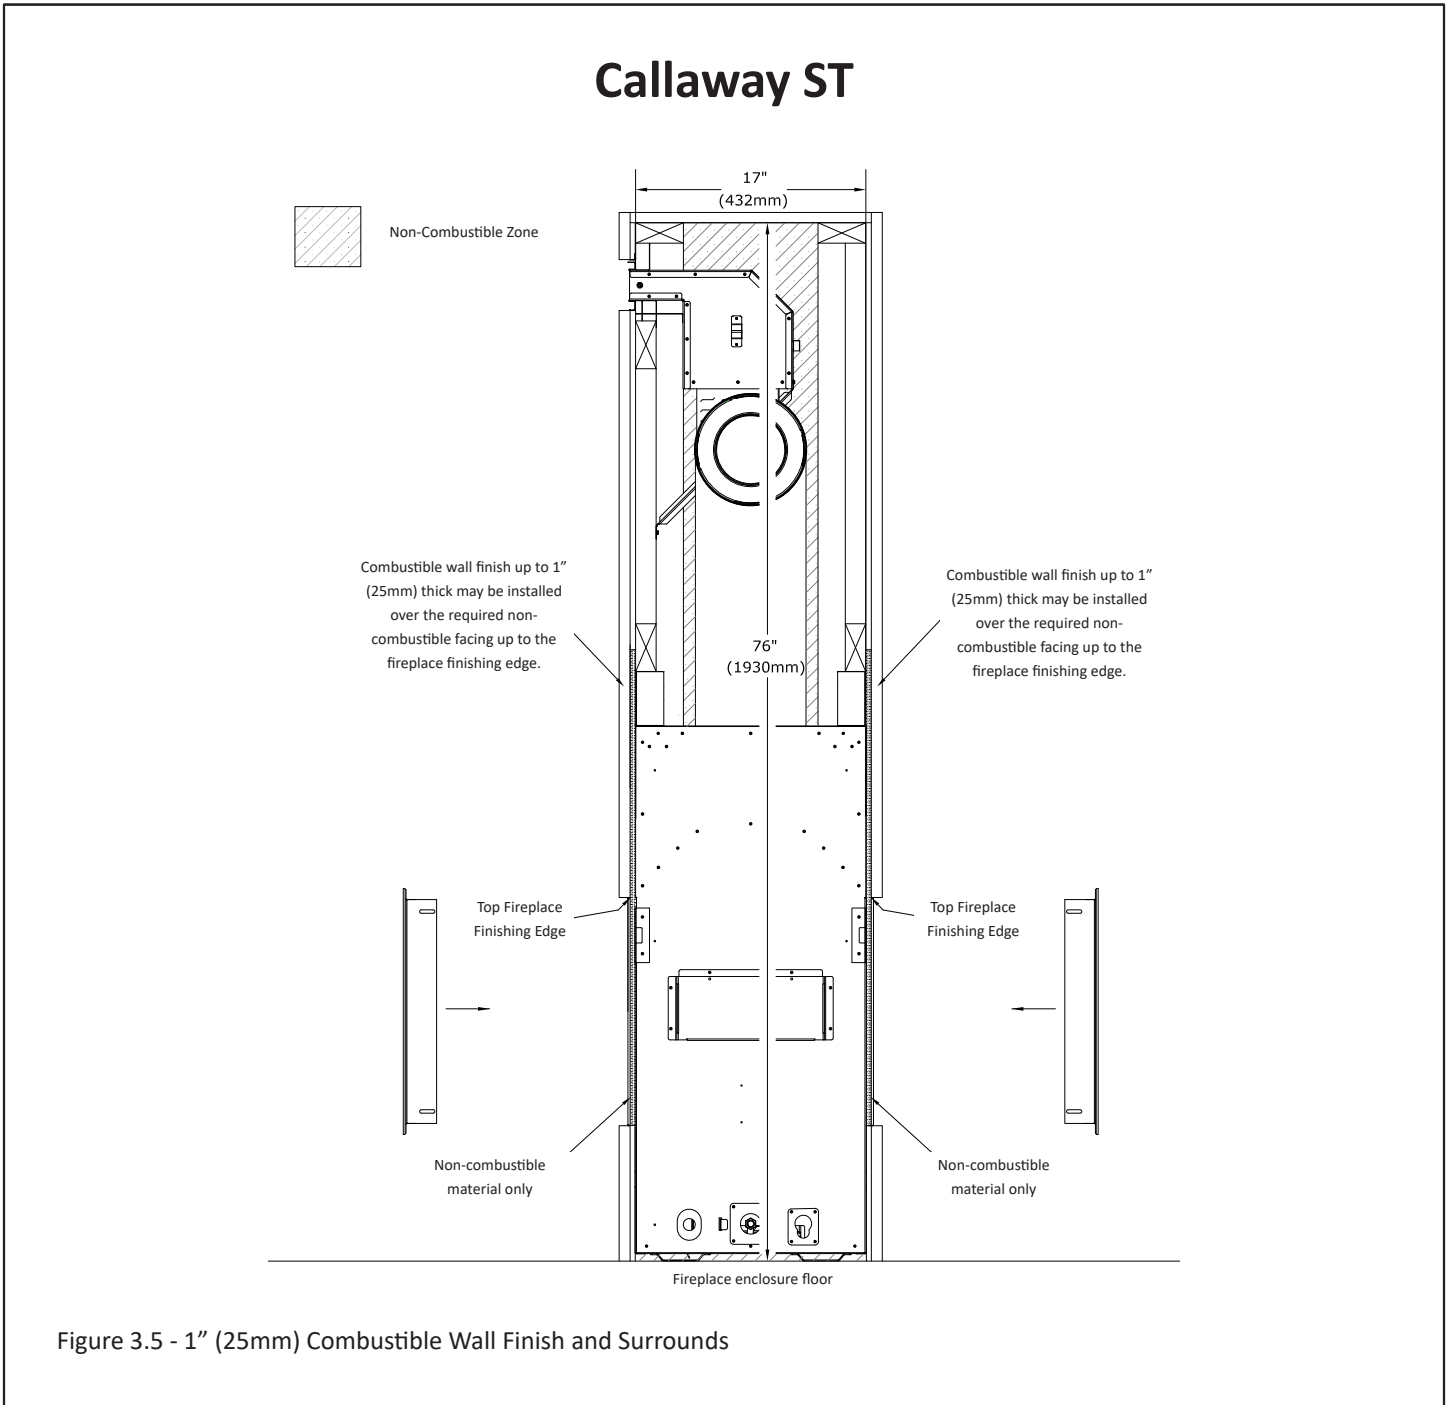

Figure 3.5 - 1" (25mm) Combustible Wall Finish and Surrounds
- Figure 3.5 shows the installation of combustible wall finish up to 1" (25mm) thick. This combustible material goes on top of any required non-combustible facing material as shown in Figure 3.2.